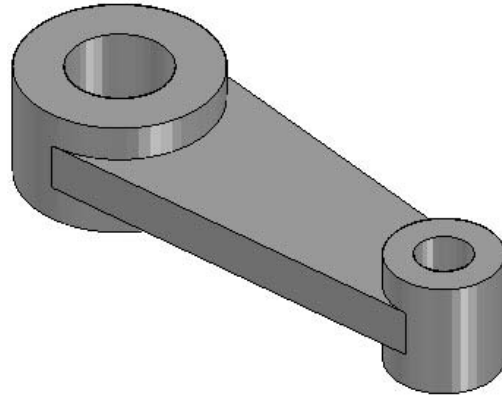

Figure 5-63 Model after creating the second feature
- Create the second feature on the top plane, refer to Figure 5-63.
- Exit the sketching environment and then extrude the sketch symmetrically through a distance of 25 units. The model after creating this feature is shown in Figure 5-63.